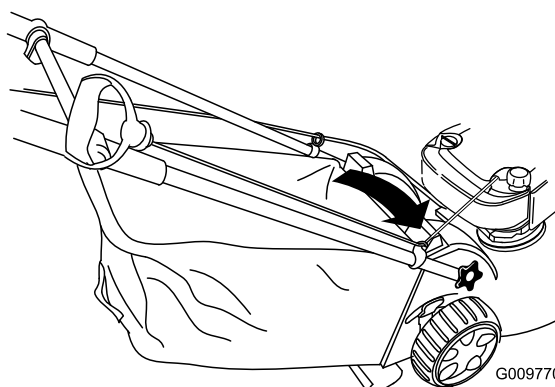

Figure 31
1. Route the starter rope around the lower-rope guide (Figure 31).